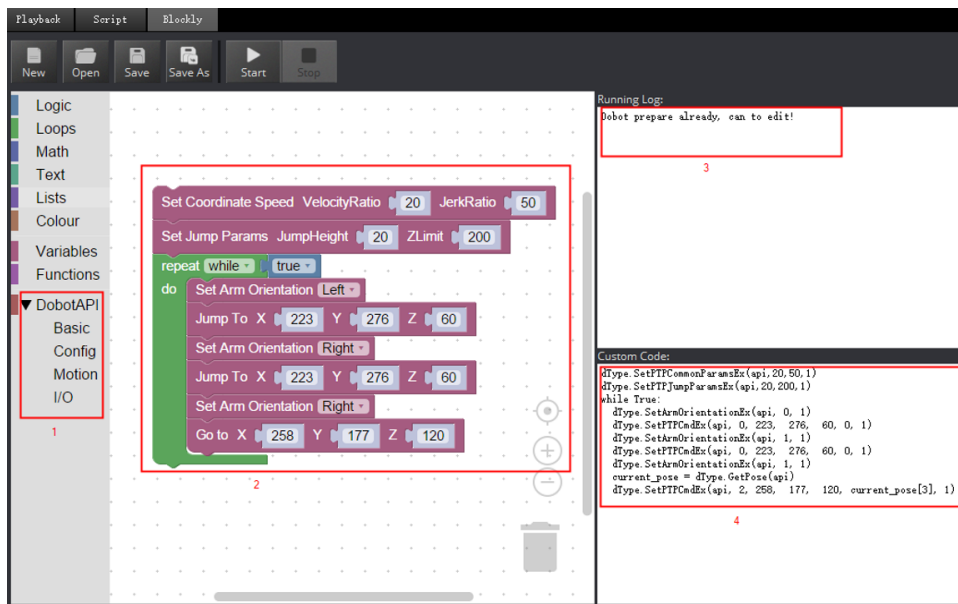

Figure 6.15 Blockly graphics programming
Step 2 Drag the blockly module on the left pane of the **Blockly** page to program, as shown in Figure 6.15.